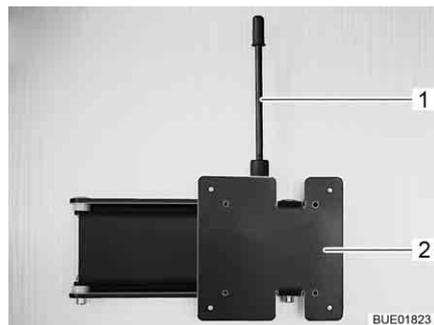

Fig. 104 Wall holder
- Push the release lever (Fig. 104,1) upwards and turn the holder (Fig. 104,2) with the flat screen to the desired position.